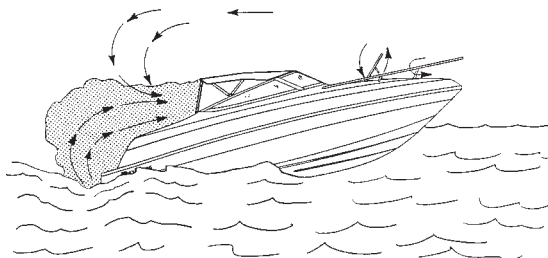

Figure B-9: Backdrafting - Air flows over boat and behind transom.
Backdrafting or the "station wagon effect" is caused by air movement over or around a boat creating a low pressure area or suction area around the stern that can increase CO level on the boat. Backdrafting can be affected by relative wind direction, boat speed, and boat trim angle. See Figure B-9 Backdrafting - Airflows Over Boat and Behind Transom".
3. Canvas Configurations -Under various conditions, adding or removing canvas may raise or lower CO levels. See Figures B-9, B-10 & B-12.